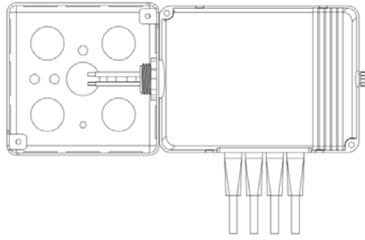

Figure 1: Room Controller mounted to 4x4 junction box
1. DO NOT DISCARD THE INCLUDED MAC ADDRESS LABELS. SEE STEP (5) BELOW.
3. Mount the Room Controller (RC) to the outside of a junction box using the Room Controller’s extended ½” chase nipple. Secure to box with enclosed EMT nut. (See Figure 1)